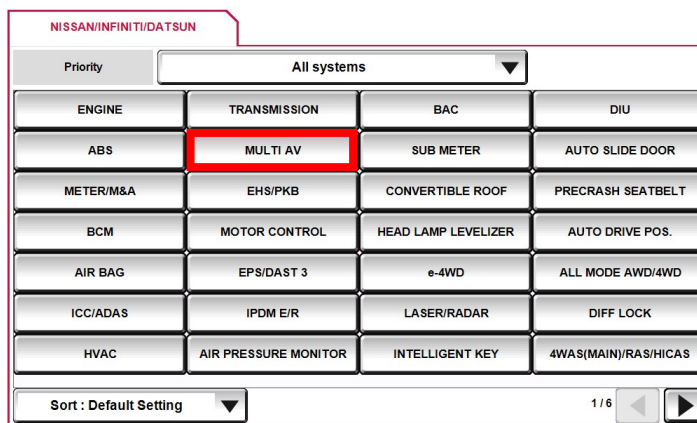

Figure 39
42. Select **MULTI AV**. (Figure 39)